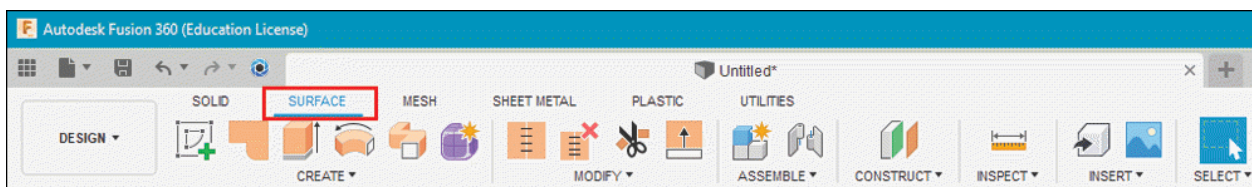

Figure-36. Tools to create surface
- Click on the **SURFACE** tab from **Toolbar**; refer to Figure-36. The tools to create surface will be activated.